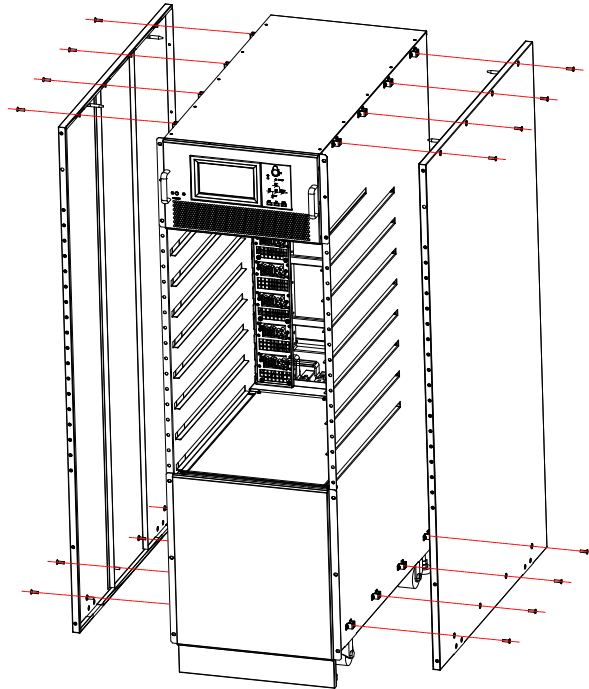

Figure 3-7 Remove the side door of the cabinet
2. Remove the side door of the cabinet, as Figure 3-7 shows ;